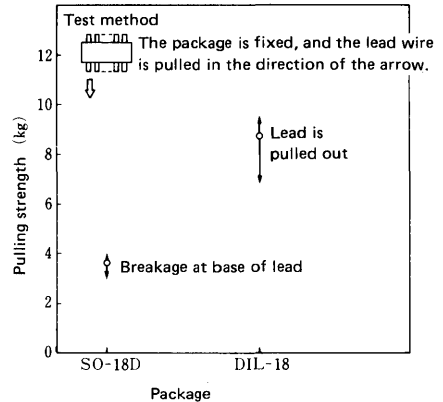

Fig. 8 Results of lead terminal pulling test
(2) Mechanical stress
- Because of the small, thin structure of the SO IC, the strength of the lead wires, in comparison with conventional plastic packages, is as shown in Fig. 8. Thus, particular attention must be paid to their handling.